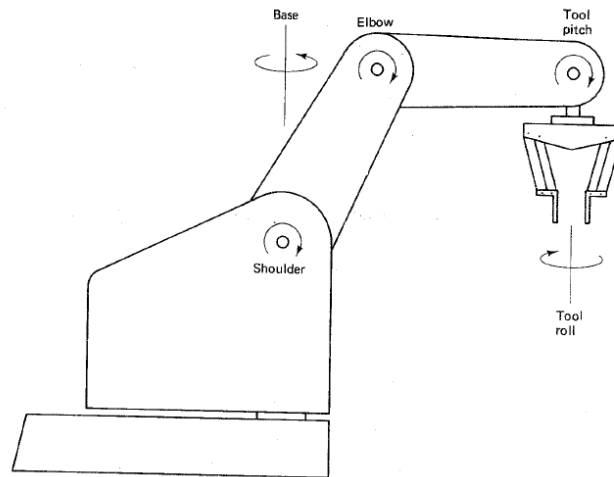

Fig.1
12. Assess the coordinate frame assignment of the robotic arm shown in the Fig.1 using the DH method. (6)